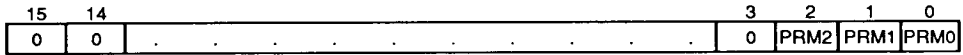

Figure 24. Priority Mask Register Format
This register is used to mask all interrupts below a particular interrupt priority level. The format of this register is shown in Figure 24. The code in the lower three bits of this register inhibits interrupts of priority lower (a higher priority number) than the code specified. For example, 100 written into this register masks interrupts of level five (101), six (110), and seven (111). The register is reset to seven (111) upon RESET so no interrupts are masked due to priority number.